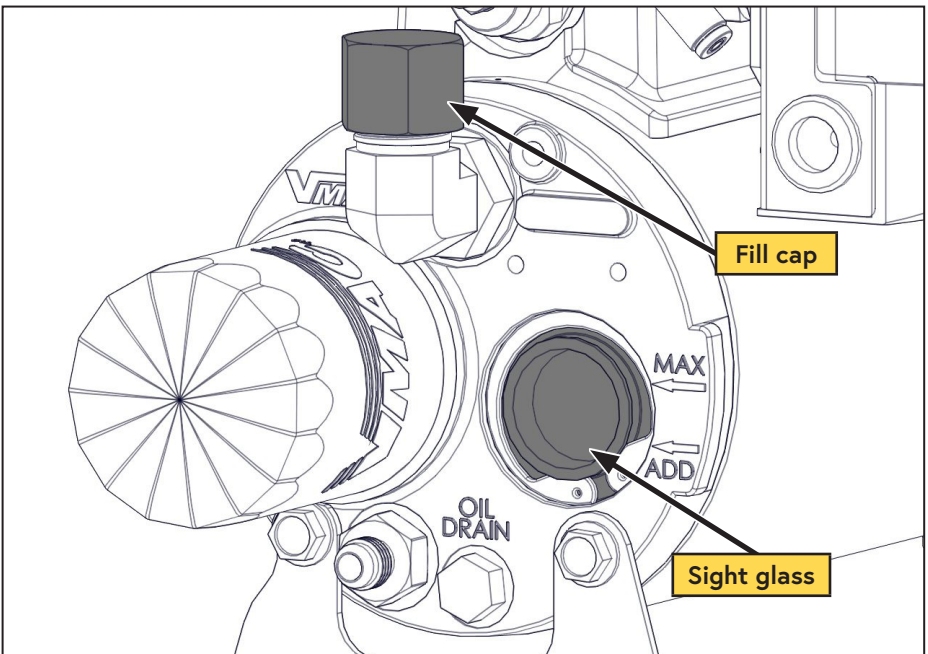

Figure 45 — Filling the WHASP Tank
- Remove the fill cap on the WHASP Tank (above the sight glass) (Figure 45).
- Using a funnel, pour oil into the tank until the oil level in the sight glass reaches the "MAX" line. **The system capacity is 4 L** (Figure 45).